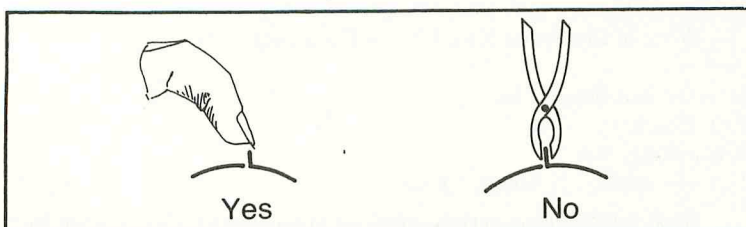

Fig. F-1. The right way and wrong way to remove a bee sting.
- *Scrape* off the stinger. Do not squeeze or pull it out. This increases the venom flow and spread (Fig. F-1).